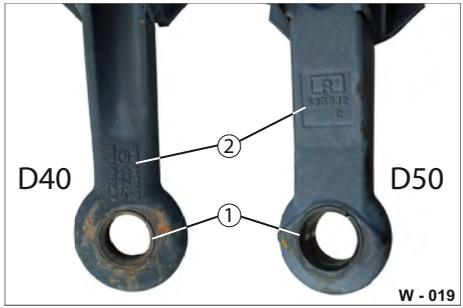

Fig. 19 Lubricating towing eyes/wear inspection
- ▶ Lubricate the wear bushing (Fig. 16/1) and the rounded area of the towing eye (Fig. 19/2) with long-term high pressure lubricant.